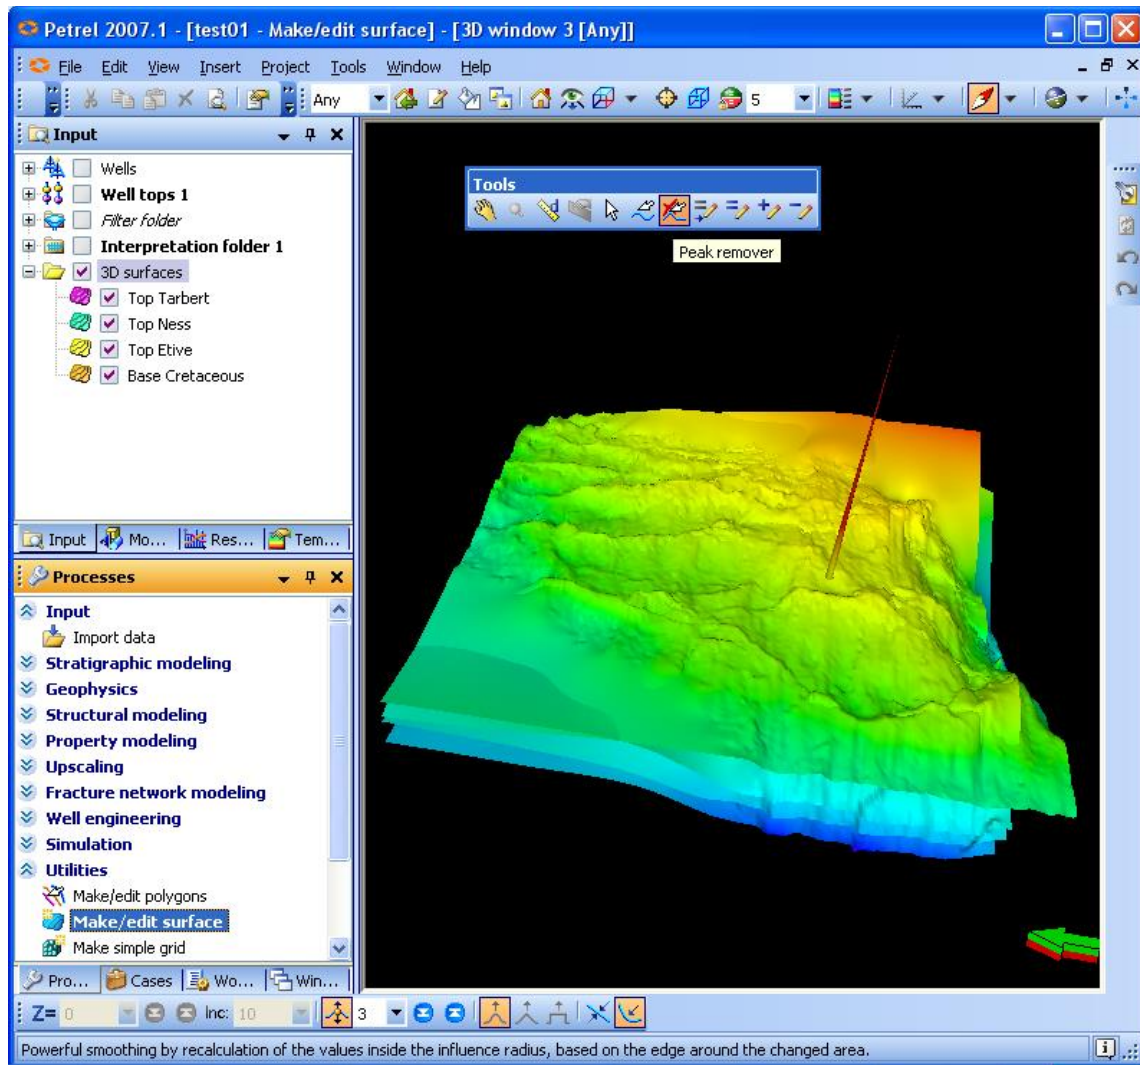

Fig.9.25: 3D surfaces displayed with peak and tool bar
1. Display the surface that contains the peak to be removed. Activate the **Make/Edit Surface** under **Utilities** in the **Process Pane** window. The **Surface Actions** toolbar displays as shown in Fig. 9.25.